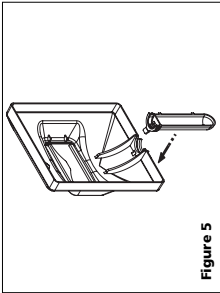

Figure 5
- To attach the handle, place shield on a flat surface and press handle into place (See Figure 5).